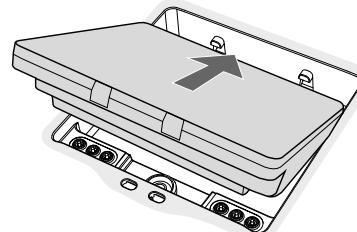

Fig. 39 Inserting the power pack
- Insert the power pack into the recess (Fig. 39).